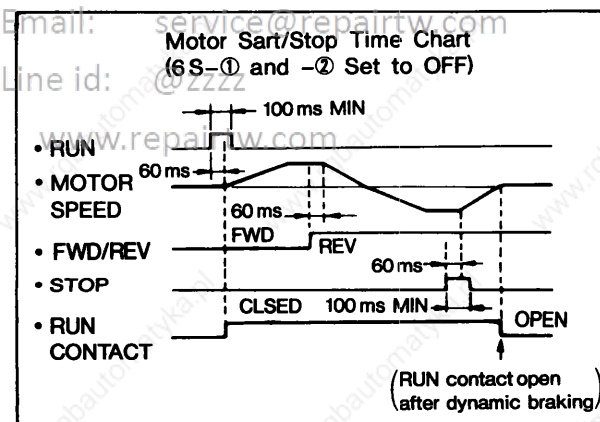

Fig 15 Run and Stop Time Chart
Fig. 15 shows the run-stop time chart when notches ① and ② of operation mode setting switch 6S are set to OFF.